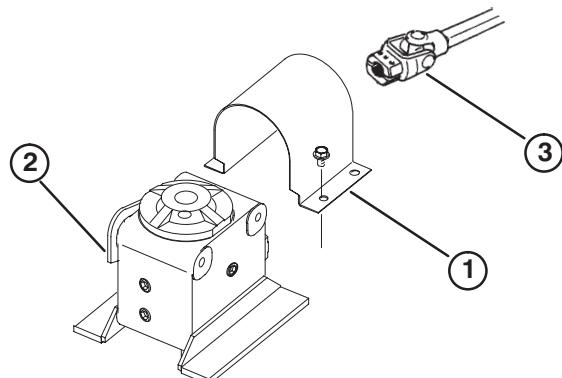

Figure 1
1. Remove (2) selftapping screws securing drive shaft guard to mounting plate (Fig. 1). Retain fasteners for re-installation.